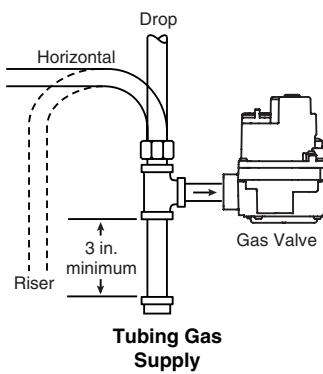

Figure 3. typical gas valve piping
5. Apply pipe joint compound (pipe dope) or teflon tape **that is approved for all gases, only to the male threads of the pipe joints. DO NOT apply compound or teflon tape to the first two threads** (see fig. 3 for typical piping connections).